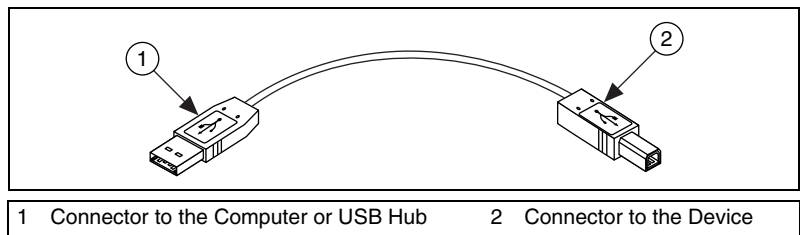

Figure 7. USB Cable and Connectors
1. Connect the USB cable shown in Figure 7 from the computer port or from any other USB hub to the USB port on the SCXI USB module.